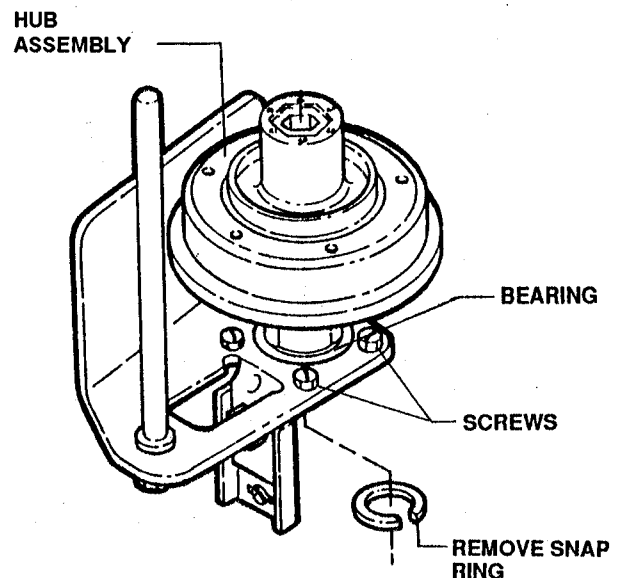

FIGURE 3.17
- (a) Remove snap ring. See Figure 3.17.